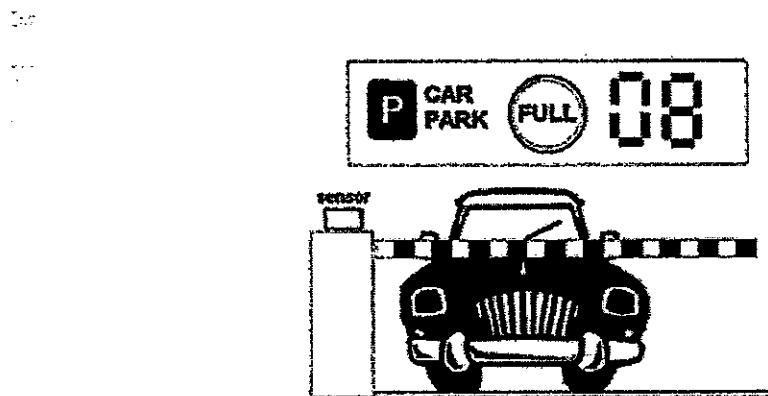

Figure A2(c)/ Rajah A2(c)
- c) Figure A2(c) shows a counting system for a car park. The sensor will count the number of cars getting into the car park. The indicator “FULL” will appear when the counter exceeds 50 and the barrier will move down. Sketch this sequence by using the conventional ladder diagram sequence.